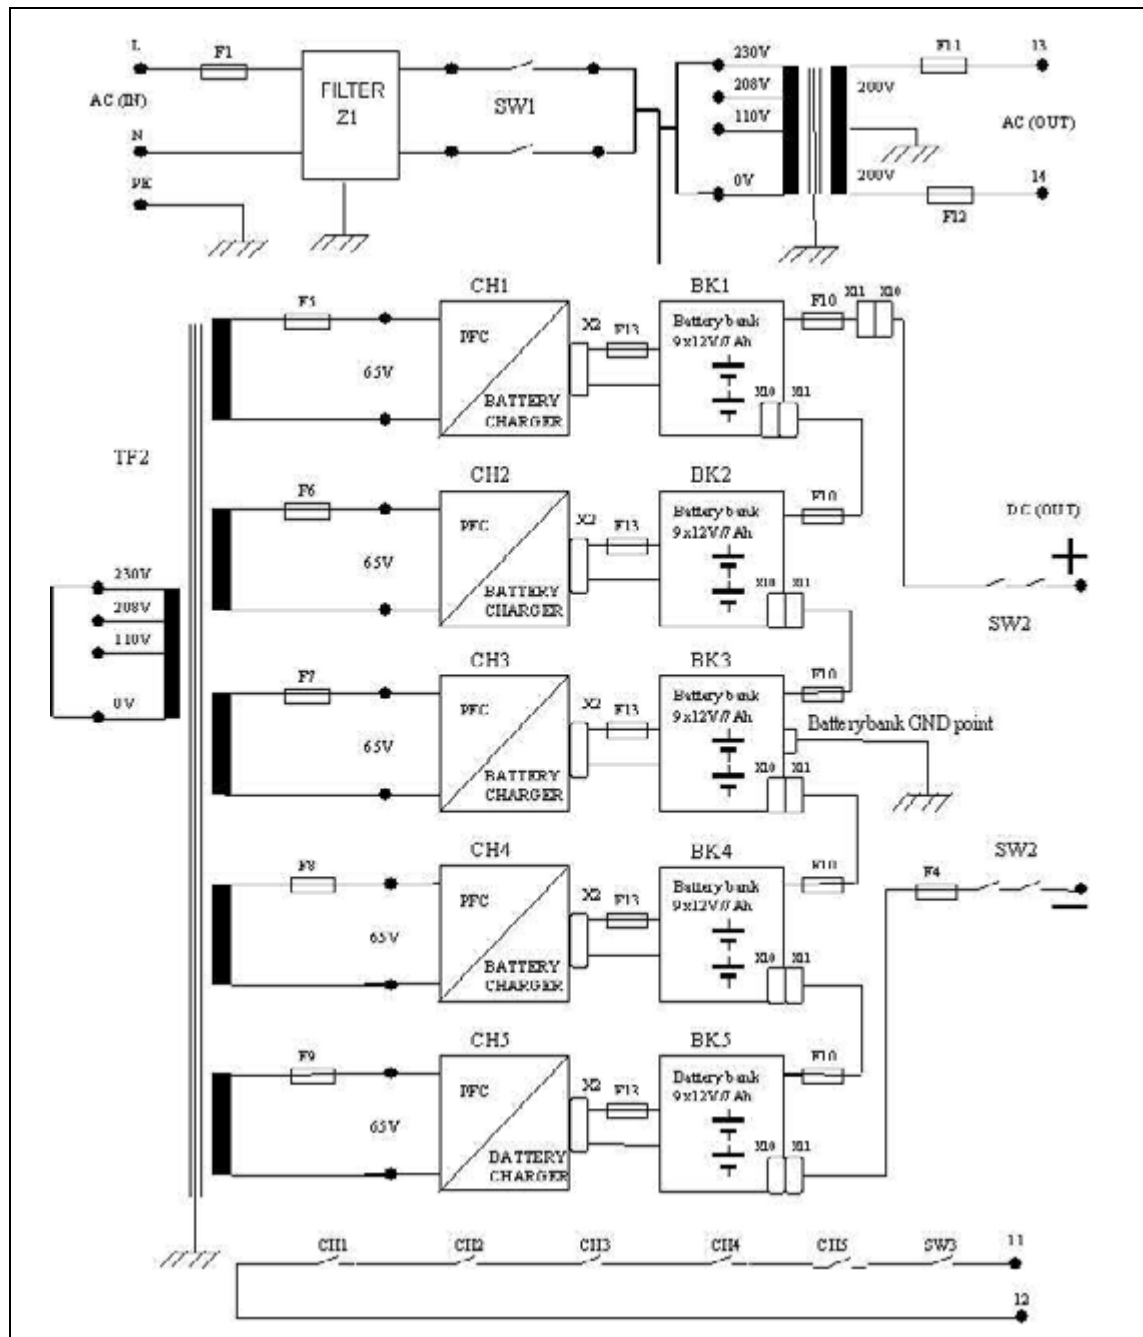

Fig. 27:
Depending on the power input voltage, connect the TF1 and TF2 transformers, see (Fig. 27 / p. 43) and the description on the transformer.
- Connect the battery banks to each other (X11 and X2 plug-in connections) as shown in (Fig. 27 / p. 43).